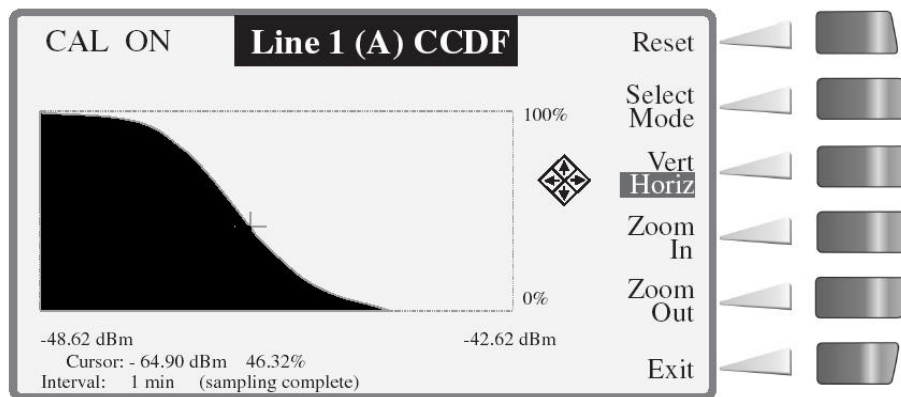

Figure 2-10: CCDF Curve Illustration
- c. The CCDF (Complementary Cumulative Distribution Function) shows the percentage of time a signal is above a selected power level for more accustomed viewing of a descending slope (See Figure 2-10).